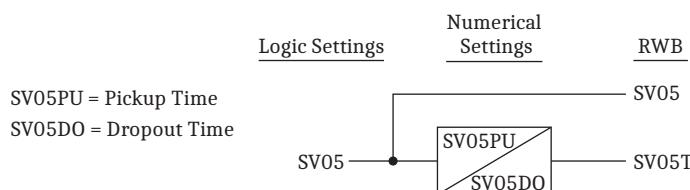
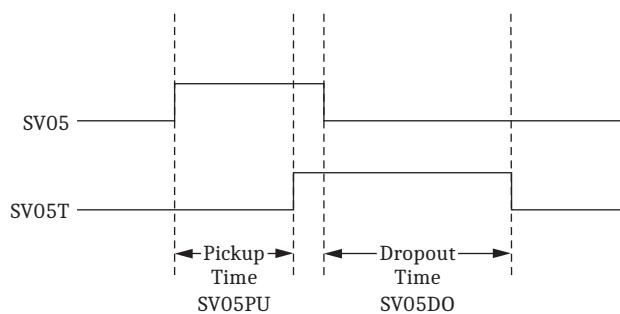

Figure 28 Example of an SV Timer in an SEL-700 Series Relay
Figure 29 Timing Diagram of SV Timers
SELOGIC variables and timers are used in place of auxiliary timers. You can use them to delay the operation of an element or function. Timers have a pickup time (PU) and a dropout time (DO) available to achieve this. You can use the SELOGIC variables without the timer to perform intermediary logic functions. In the SEL-400 series relays, these timers are called conditioning timers. In *Figure 28* and *Figure 29*, SV05T asserts after SV05 stays asserted for SV05PU time. Then, SV05T stays asserted for SV05DO time after SV05 drops out.